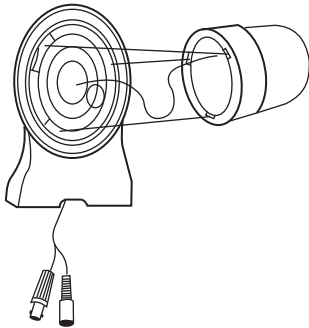

Fig 3
4. Align the three fixings on the middle housing of the camera with the three slots on the plastic mounting pedestal as shown in Fig.3 and turn it counter-clockwise to secure.